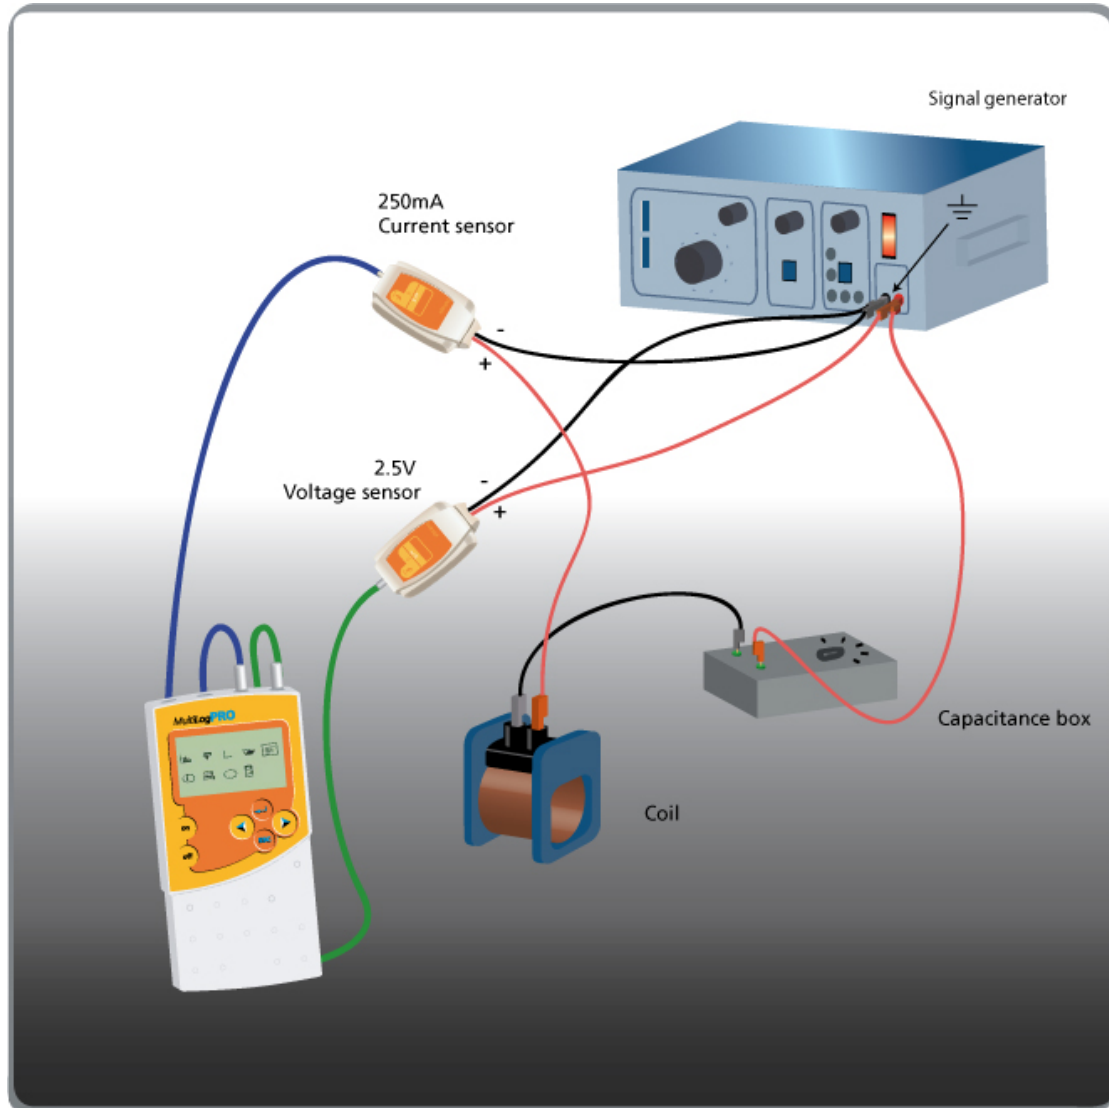

Figure 1
5. Assemble the electric circuit as shown by figures 1 and 2